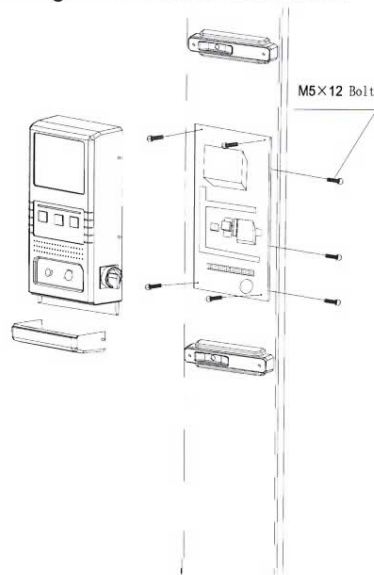

Fig.12
- Install the base plate of electrical control box (as shown in Fig. 12) on the powerside column.